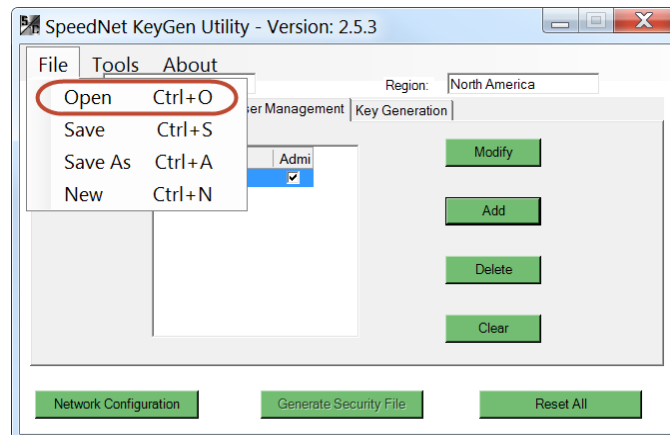

Figure 32. SpeedNet KeyGen Utility window open SAD.
STEP 1. Open the **File** menu in the upper-left corner of the **SpeedNet KeyGen Utility** window. Scroll down and select the **Open** button. See Figure 32.